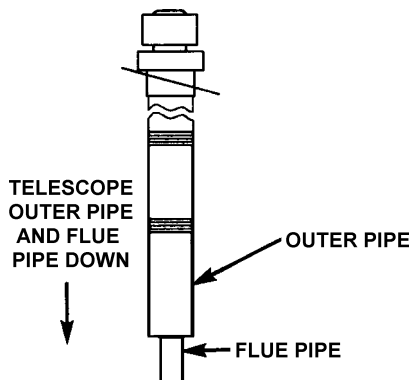

FIGURE 14.
3. Telescope down the outer pipe of the roof jack assembly to a length that will project at least 2" (5.08 cm) below the finished ceiling before installing the roof jack assembly, see Figure 14.